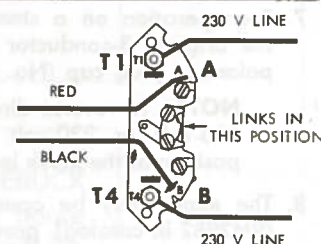

Figure 5
- For operation on 230 volts, the power leads are connected the same as for 115-volt operation. The two links, however, must be in position shown in figure 5 (one on top of the other, connecting the two centermost screws). Make sure screws are tight.